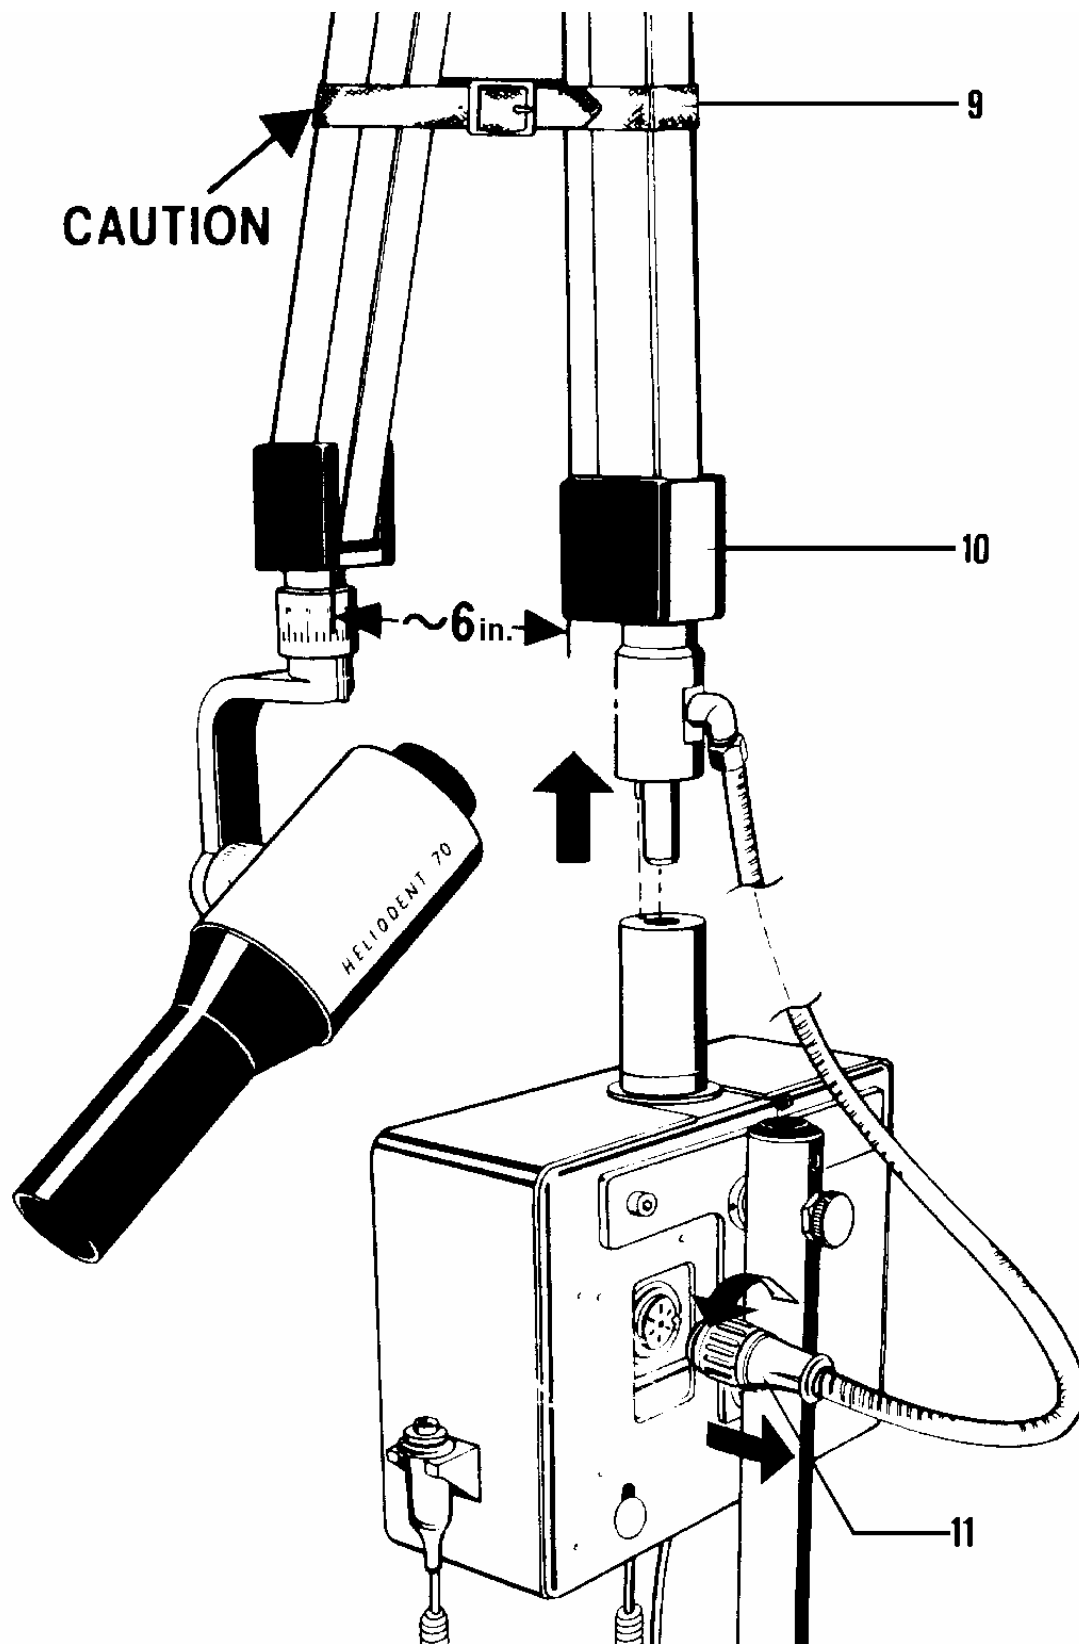

Figure 4-1. Scissors arm assembly.
b. **Procedures.** Refer to figure 4-1.
(1) Prepare the scissors arm.
- (b) Put the safety strap (9) in place.
- (c) Disengage the scissors arm assembly (10) from the coupling as shown in figure 4-1.
- (d) Disconnect multi-pin plug (11) by unscrewing the lock ring in the direction of the arrow.
- (e) Place the protective sleeve over the multi-pin connector (11).